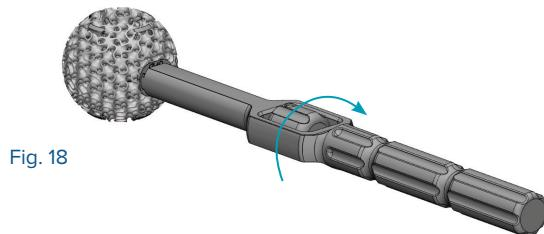

Fig. 18
- 18.** The inserter may be threaded into the Ossera™ AFX to aid in removal by turning the thumbscrew clockwise (fig. 18).